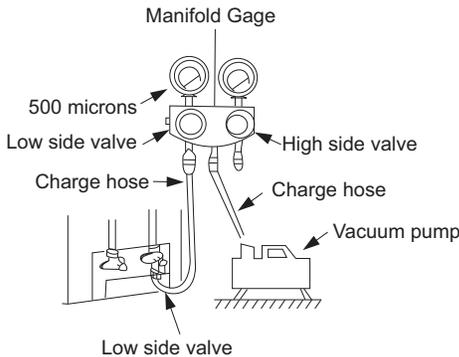

Fig. 20 – Manifold
3. Fully open the low side of manifold gage (see Fig. 20).